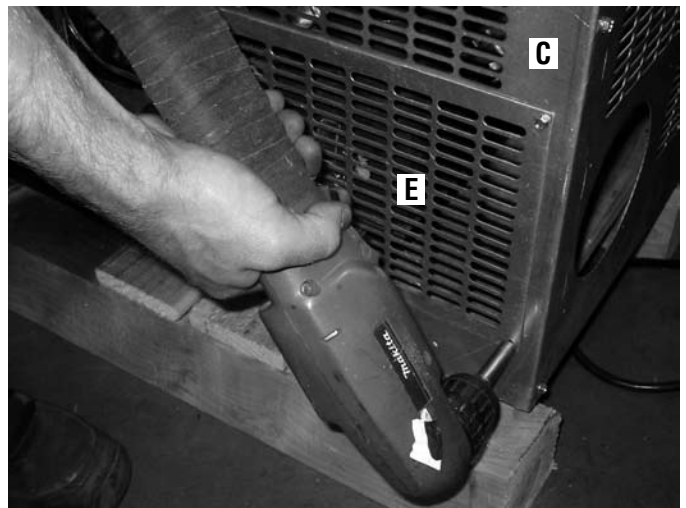

Figure 61
6. Installing access panel: Taking the access panel (E in **Figure 61**) and 4 of the sheet metal screws provided, screw the access panel E onto the right side panel C as shown in **Figure 61**).